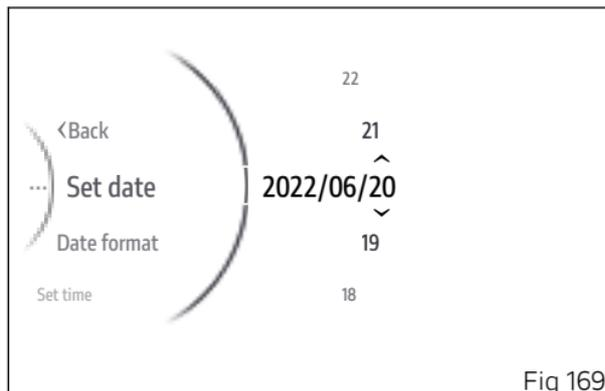

Fig 169
The arrows and available values appear for the third parameter, which is the day in the example shown here (Fig 169). Use buttons (1) and (2) to scroll and select the desired value. Press ENTER (3) to confirm.